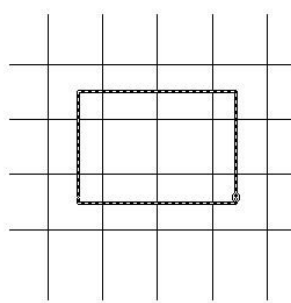

Fig 12
3. *Specify the side to trim on.* (Fig 12)